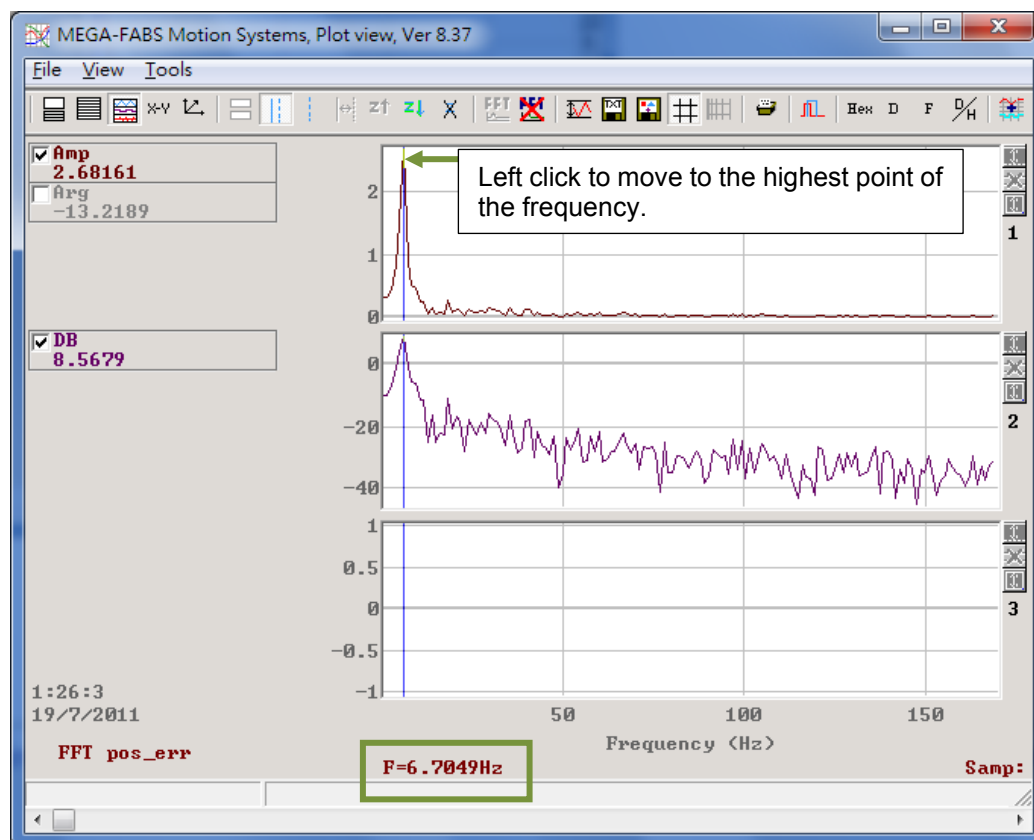

Figure10.6.4.4
- Step 8: Set the frequency (In figure 10.6.4.4, the frequency is 6.7 Hz.) of low-frequency vibration in vibration suppression frequency (Pt14A). Set vibration suppression compensation (Pt14B). The higher the value, the greater the effect. Users can use the default value for testing first.